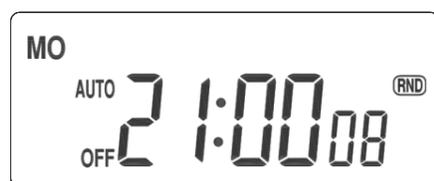

Fig. 5
2. Click **OK** button, the timer enter random switching function as show in Fig. 5.